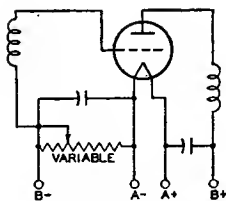
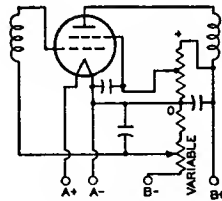

Fig. 64
Fig. 66
Grid-bias variation for the rf and if amplifier stages is a convenient and frequently used method for controlling receiver volume. The variable voltage supplied to the grid may be obtained: (1) from a variable cathode resistor as shown in Figs. 64 and 65; (2) from a bleeder circuit by means of a potentiometer as shown in Fig. 66; or (3) from a bleeder circuit in which the bleeder current is varied by a tube used for automatic volume control. The latter circuit is shown in Fig. 47. In all cases it is important that the control be arranged so that at no time will the bias be less than the recommended minimum grid-bias voltage for the particular tubes used. This requirement can be met by providing a fixed stop on the potentiometer, by connecting a fixed resistance in series with the variable resistance, or by connecting a fixed cathode resistance in series with the variable resistance used for regulation.